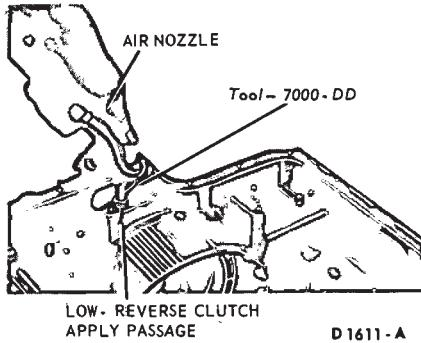

FIG. 30—Removing Low-Reverse Clutch Piston
21. Remove the reverse clutch piston from the case as shown in Fig. 30.